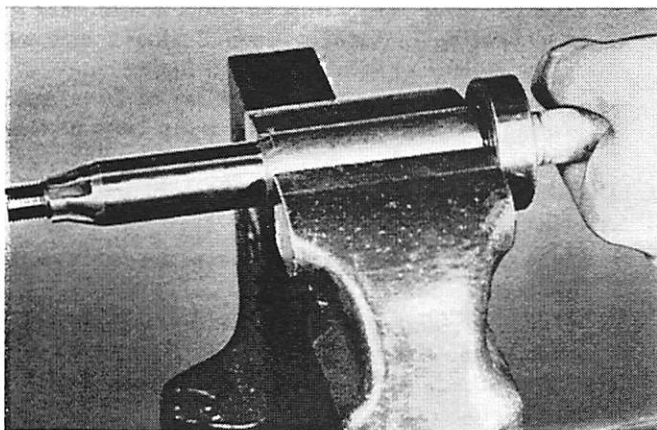

Figure 7. Removing Ball Bearing From Drive Shaft
6. Ball bearing can be removed from drive shaft by placing against open vise jaws and tapping on splined end of drive shaft with a mallet. (Figure 7)